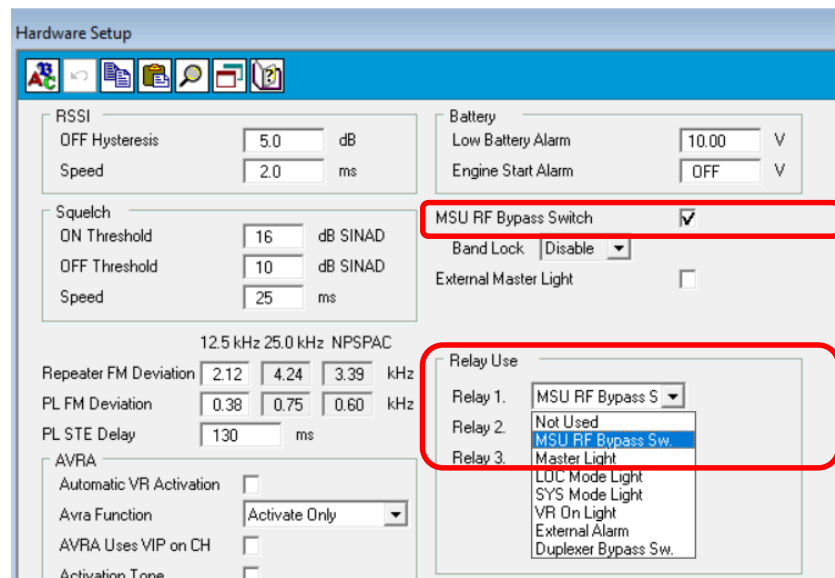

Figure 2: RF Bypass Switch Configuration
To enable the RF bypass switch operation, the following must be configured via Futurecom Repeater Configurator (FRC) in the Hardware Setup menu (Figure 2):
To enable the RF bypass switch operation, the following must be configured via FRC in the Hardware Setup menu (Figure 2):
- **Hardware Setup**→ **MSU RF Bypass Switch** = checked (enabled) (See: **Figure 2: RF Bypass Switch Configuration**)
- **Hardware Setup**→ **Relay Use**→ **Relay 1** = MSU RF Bypass Sw. (See: **Figure 2: RF Bypass Switch Configuration**)